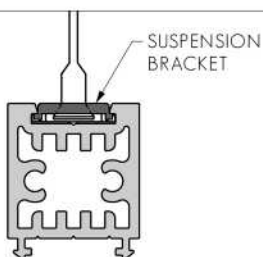

FIG. 2 - ADJUST SUSPENSION CABLE
2. FEED WIRE SUSPENSION CABLES IN TO CEILING ATTACHMENTS. PRESS NIPPLE INWARDS TO ADJUST CABLE LENGTH (SEE FIG. 2).
4. ONCE CORRECT SUSPENSION HEIGHT HAS BEEN SET, CUT OFF EXCESS SUSPENSION WIRE USING SIDE CUTTERS. (SEE FIG. 2).